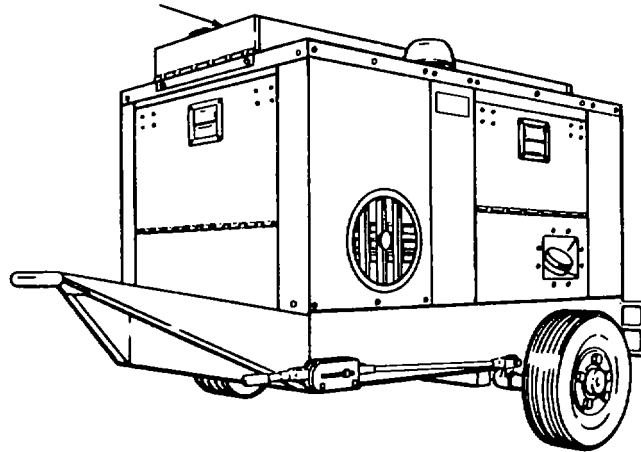

Figure 6-1. Enclosure Roof
- (1) Remove enclosure roof. (Figure 6-1)